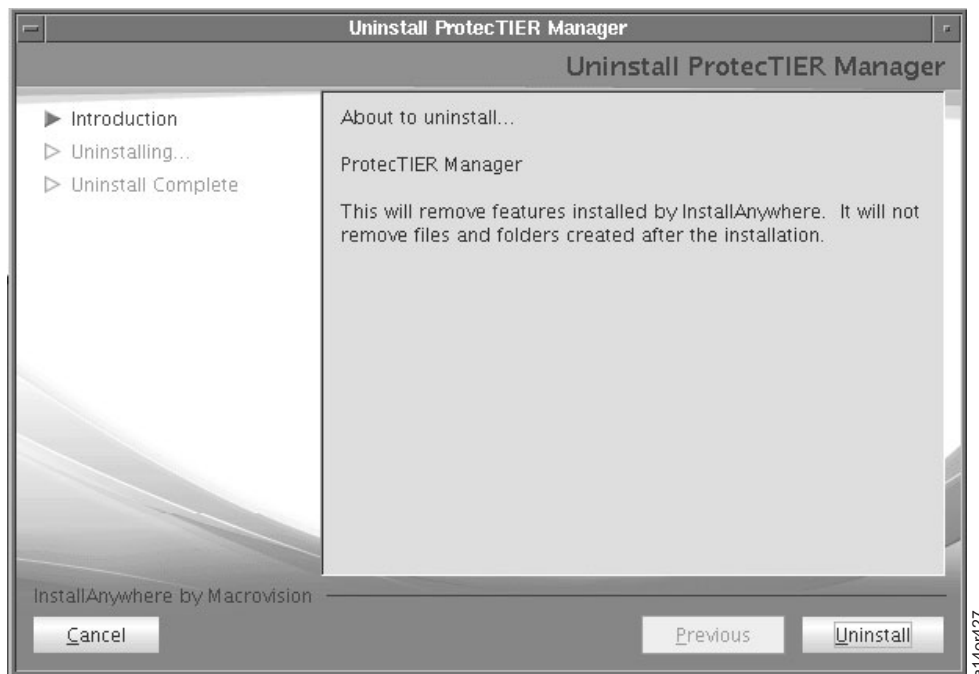

Figure 2-91. Uninstall ProtecTIER Manager Window
4. The uninstall program will launch and you will see the Uninstall ProtecTIER Manager window shown in Figure 2-91. Click **Uninstall**.